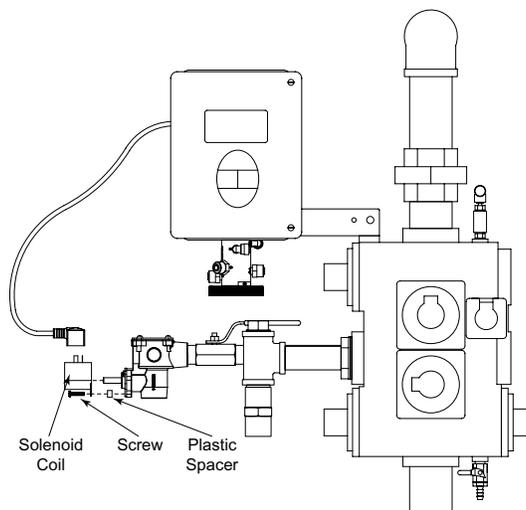

Figure 14.
2. Assemble it to the brine refill valve as shown in Figure 14.